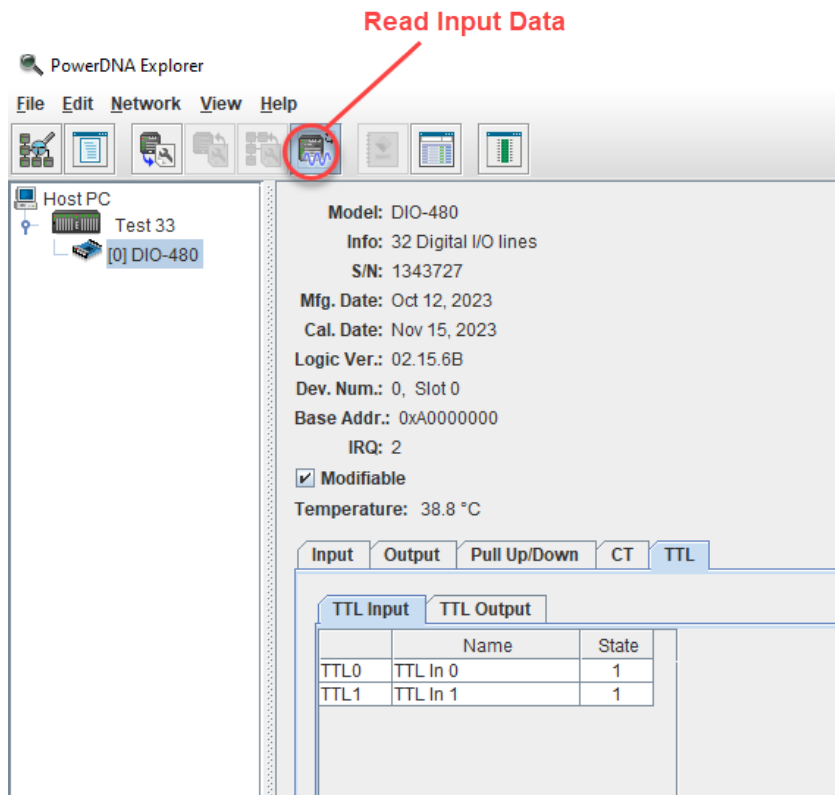

Figure 3-8 PowerDNA Explorer TTL Tab, TTL Input Subtab
3.6 TTL-Level DIO To explore the TTL-level digital I/O subsystem, open the TTL tab (**Figure 3-8**).
Click the **Read Input Data** button to read the state of the two TTL input channels. The TTL Input subtab (**Figure 3-8**) contains the following columns: